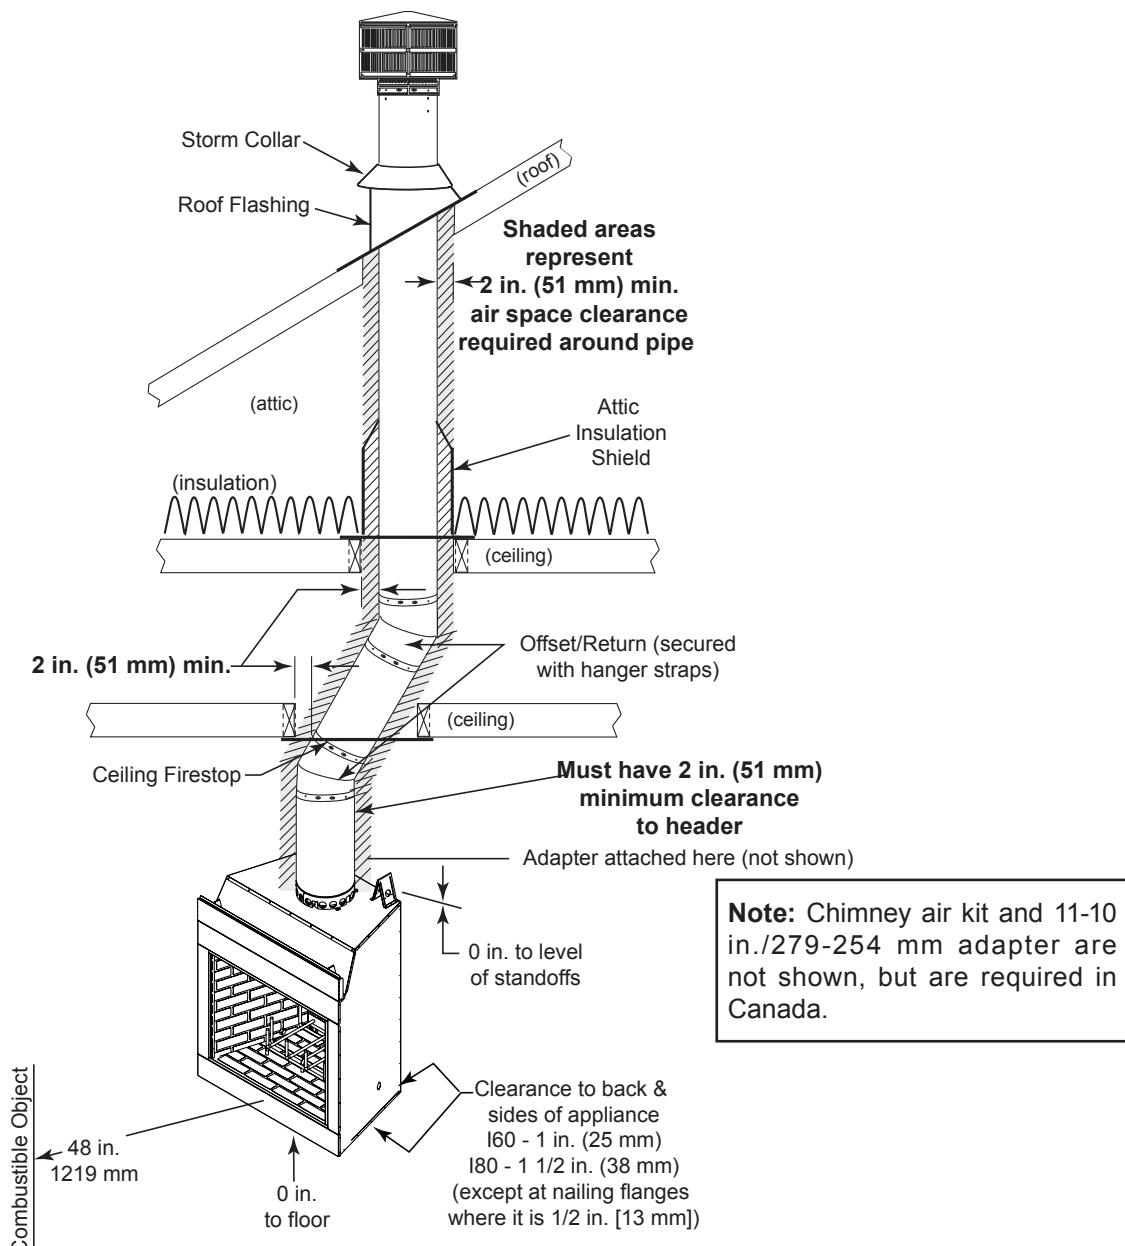
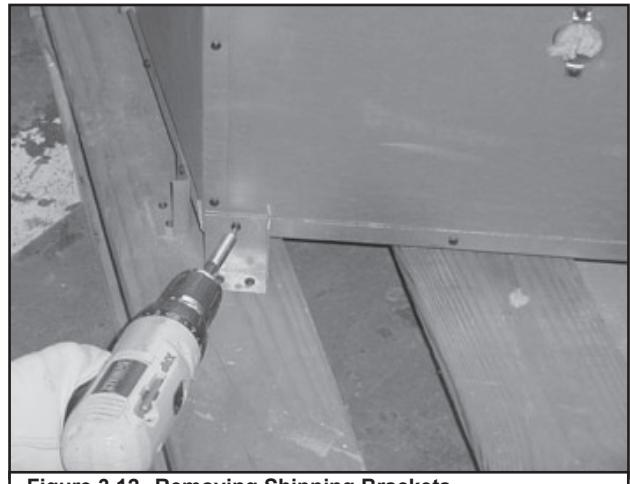

Figure 3.3 Clearances to Combustible Materials
Figure 3.12 Removing Shipping Brackets
You must comply with all minimum air space clearances to combustibles as specified in Figure 3.3. **DO NOT** pack required air spaces with insulation or other materials. Framing or finishing material used on the front of, or in front of, the fireplace closer than the minimums listed must be constructed entirely of non-combustible materials (i.e., steel studs, concrete board, etc.). Failure to comply may cause fire.
Walls, ceiling, base plate and cantilever floor at the first level of the chase should be insulated (see Figure 3.3.) Vapor and air infiltration barriers should be installed in the chase as per regional codes for the rest of the home. Additionally, Hearth & Home Technologies recommends that the inside surfaces be drywalled and taped (or the use of an equivalent method) for maximum air tightness.
- Remove shipping brackets as shown in Figure 3.12. Replace the screws removed from the fireplace.
- Remove fireplace from pallet. The fireplace is attached to pallet with two brackets on each side and rear of outer shell. See Figure 3.12.
Figure 3.12 shows a typical framing (using 2 x 4 lumber) of the fireplace, assuming combustible materials are used. All required clearances to combustibles around the fireplace must be adhered to. See Figure 3.3. Any framing across the top of the fireplace must be above the level of the top standoffs.